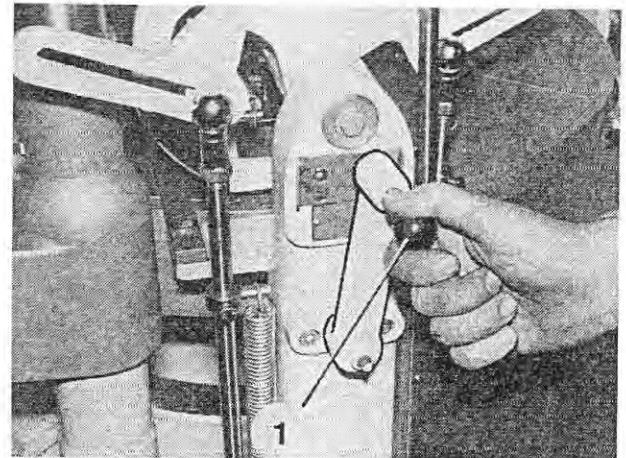

Fig. 133
2. Switch off the dosing unit, pulling out the index pin (Figure 133/1) and setting the lever to position „0“.